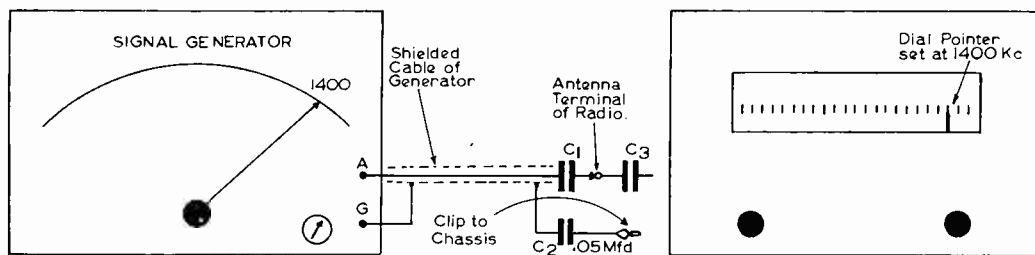

Fig. 2. Signal Generator Connections (RF section alignment)
3. Adjust the output control of the generator until the signal can be heard, with the generator cable connected to the receiver input circuit. The connections are shown in Fig. 2. In many cases, a direct connection of the generator cable to the set is permissible but to limit any possibility of excessive current flow, blocking condensers C1 and C2 as shown in Fig. 2, may be used.